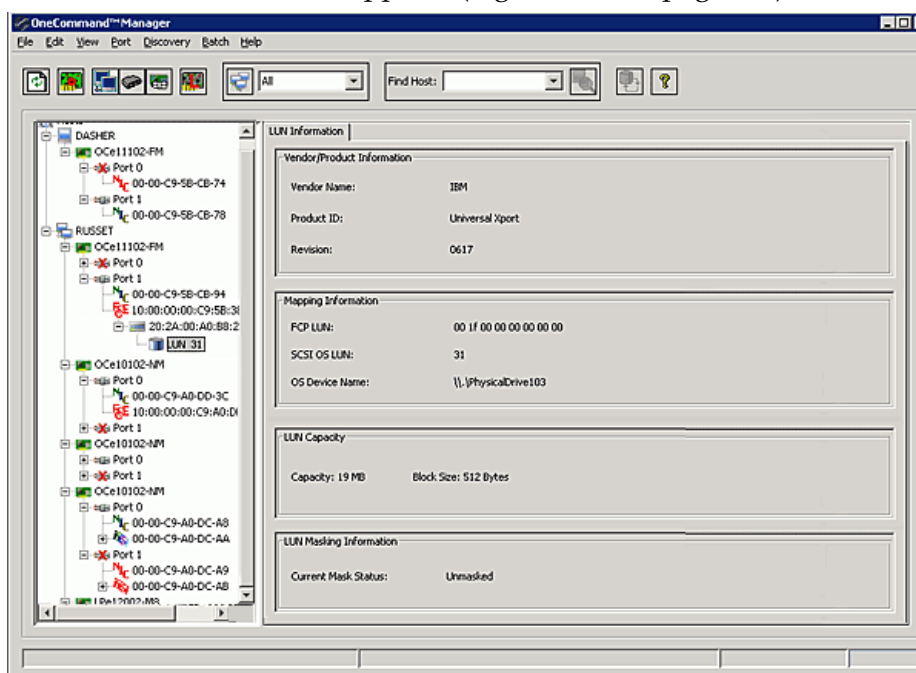

Figure 8-19 FC/FCoE LUN Information Tab
When you select a LUN associated with an FC/FCoE target from the discovery-tree (Figure 8-19 on page 141), the LUN tab displays information associated with that LUN.
3. The LUN Information tab appears (Figure 8-19 on page 141).